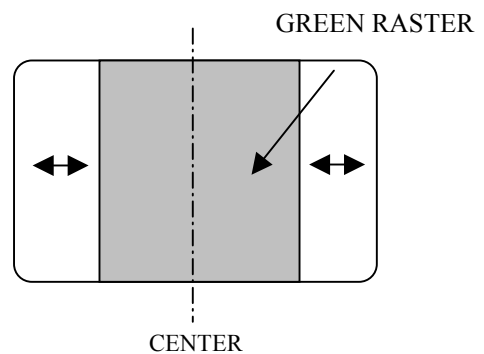

Fig. 3
7. Adjust the gap between two lugs so that the GREEN RASTER will come into the centre of the screen. (Fig. 3)
2. Move the deflection yoke left to right and overlap the lines in the periphery. (Fig. 3)